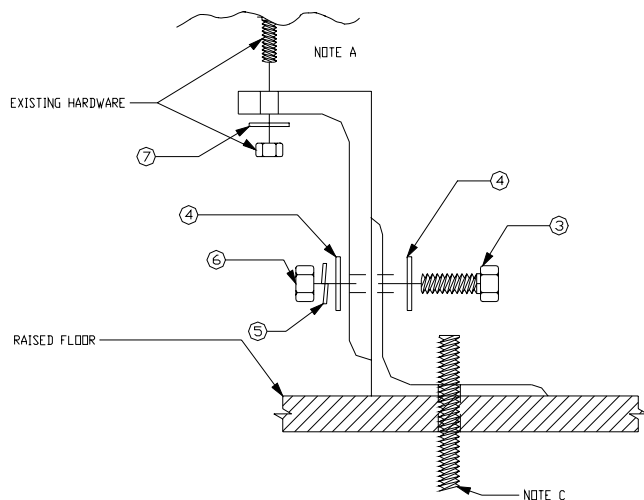

FIG 2. BRACKET MOUNTING
- B. PUT 3B2-600 IN PLACE ON FLOOR. PLACE 2 INCH ANGLE ALUMINUM (L1 701) ON FLOOR AGAINST WHEEL BRACKETS JUST INSTALLED. MARK FLOOR FOR DRILLING AND MOUNT 22 INCH ANGLE ALUMINUM TO FLOOR (AW NOTE C). PUT 3B2-600 AGAINST FLOOR BRACKET AND MARK FOR DRILLING. SECURE TWO BRACKETS AS SHOWN IN FIG 2.